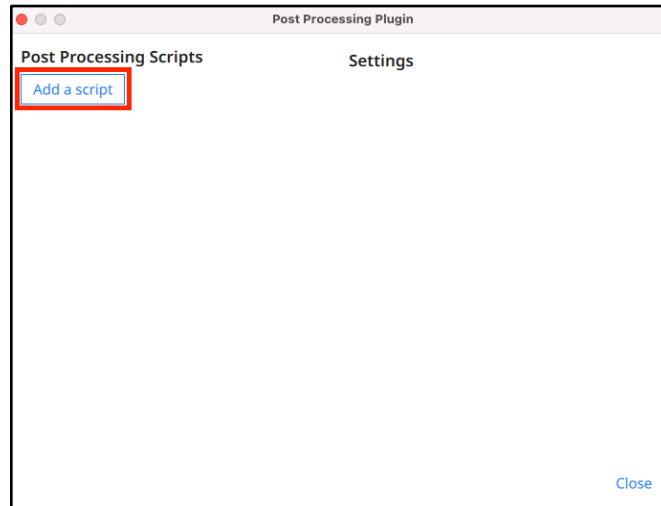

Figure 25: Adding a Script
15. Click 'Add a script' (See Figure 25).